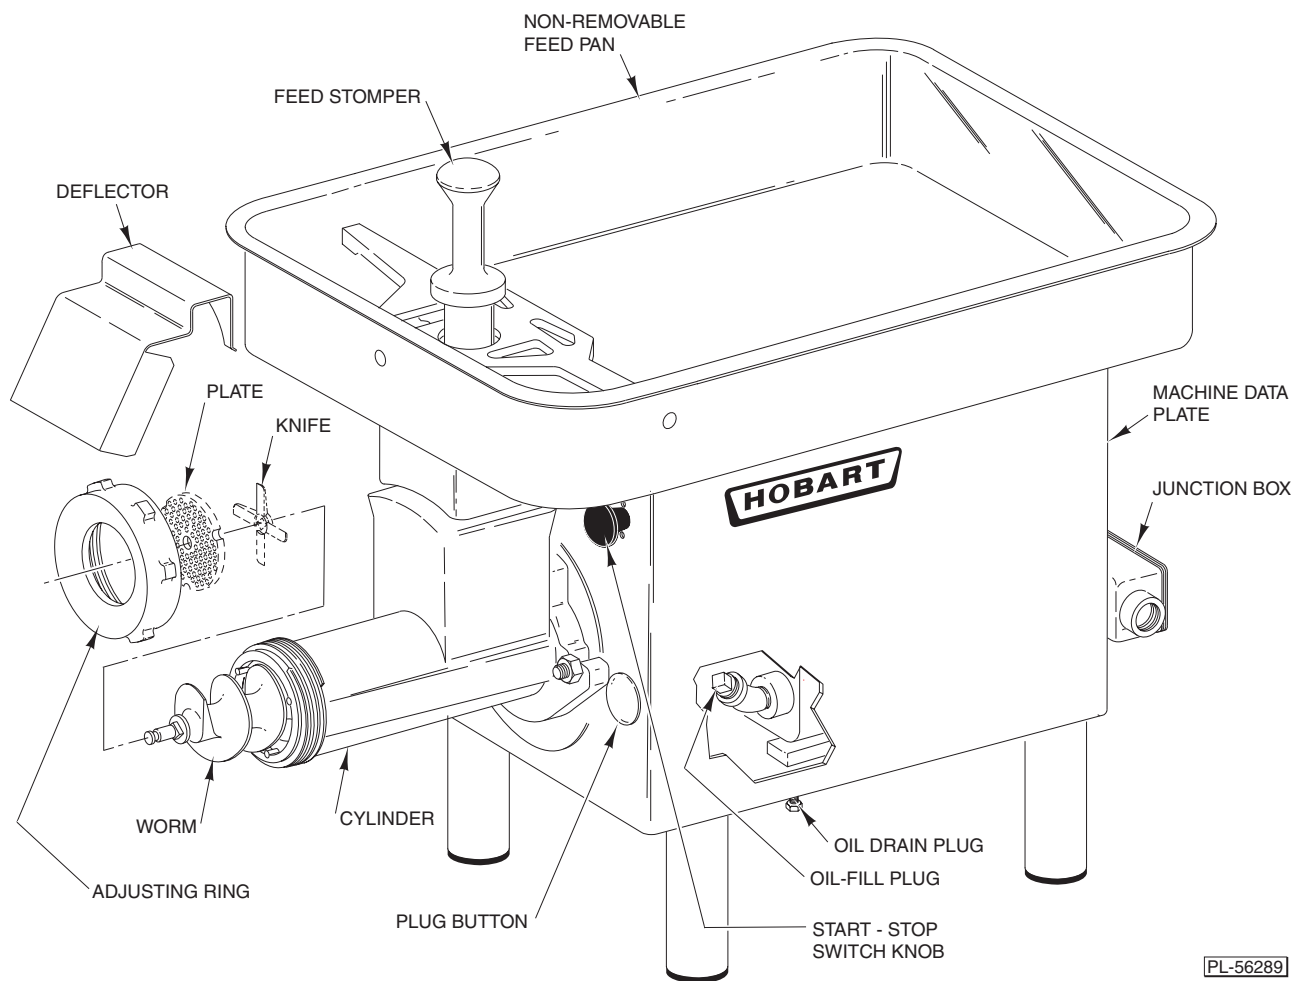
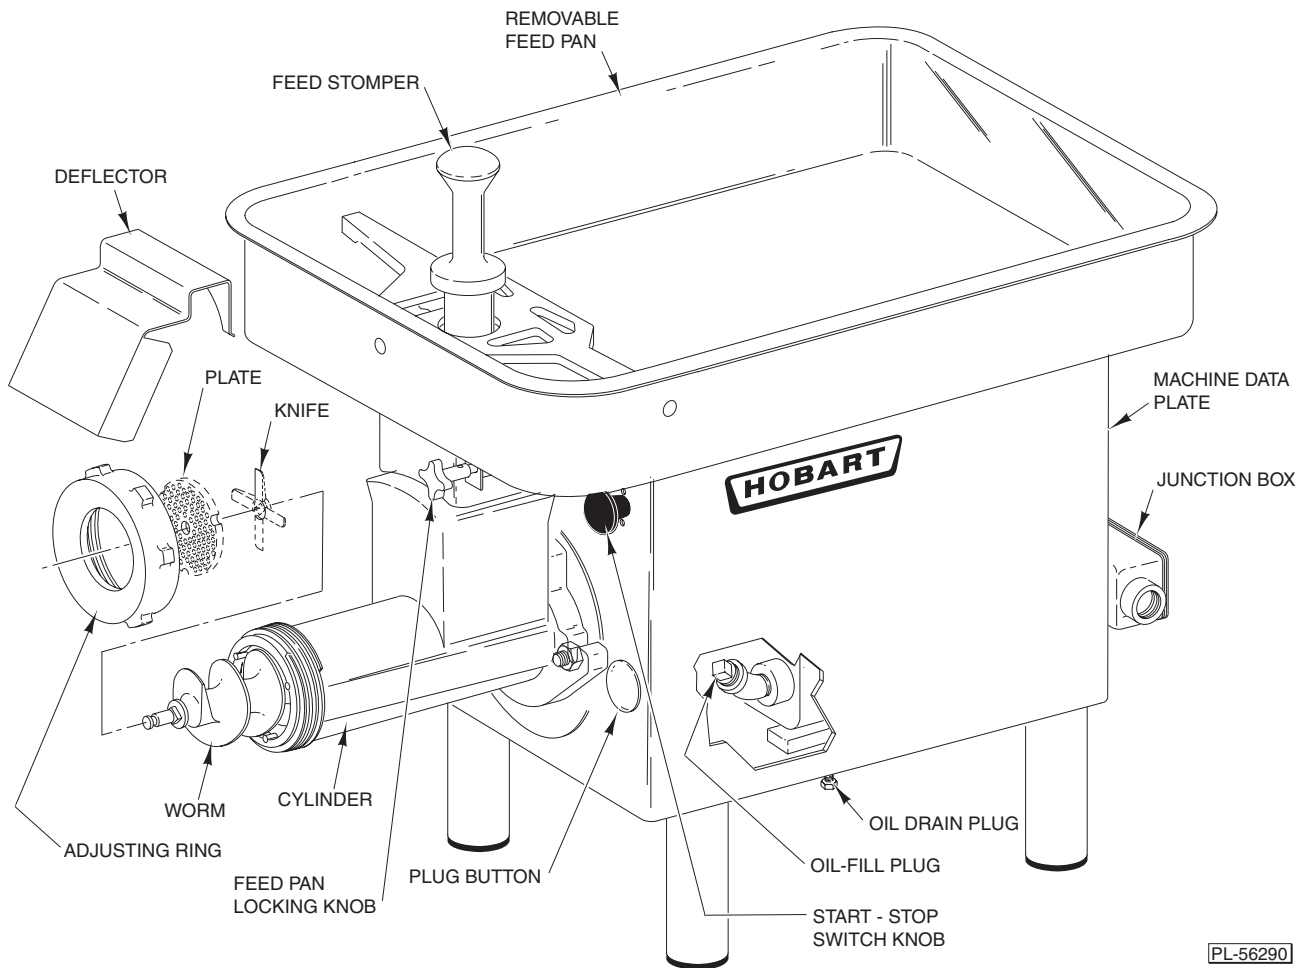
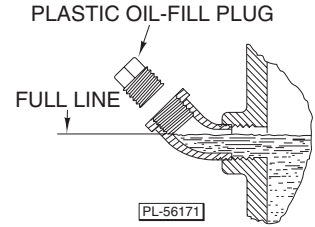

Fig. 3
Fig. 4
Fig. 6
After cleaning, assemble chopper Cylinder, Worm, Knife, Plate and Adjusting Ring (and Feed Pan on model 4732A) as discussed in CLEANING, page 7, and Fig. 3 or Fig. 4. Place the Deflector over the Adjusting Ring.
- To start the chopper, pull the Start-Stop Switch Knob (Fig. 3 or Fig. 4).
## CLEANING (Fig. 3 or Fig. 4)
Store the Feed Stomper as shown in Fig. 3 or Fig. 4.
To change the gear case oil, place a suitable catch pan under the machine and remove the Drain Plug (Fig. 3 or Fig. 4). When old oil is completely drained, replace the Drain Plug. Fill the gear case with 21 fluid ounces of Mobilgear 634 as follows: Remove the Plug Button (Fig. 3 or Fig. 4); then remove the Plastic Oil-Fill Plug (Fig. 6). Pour the proper amount of Mobilgear 634 into the elbow. The gear case is full when the oil is at the bottom thread level of the elbow (Fig. 6). Thread the Plastic Oil-Fill Plug back into the elbow, finger-tight. Press the Plug Button back into the hole of the chopper housing. The chopper requires no other lubrication maintenance.